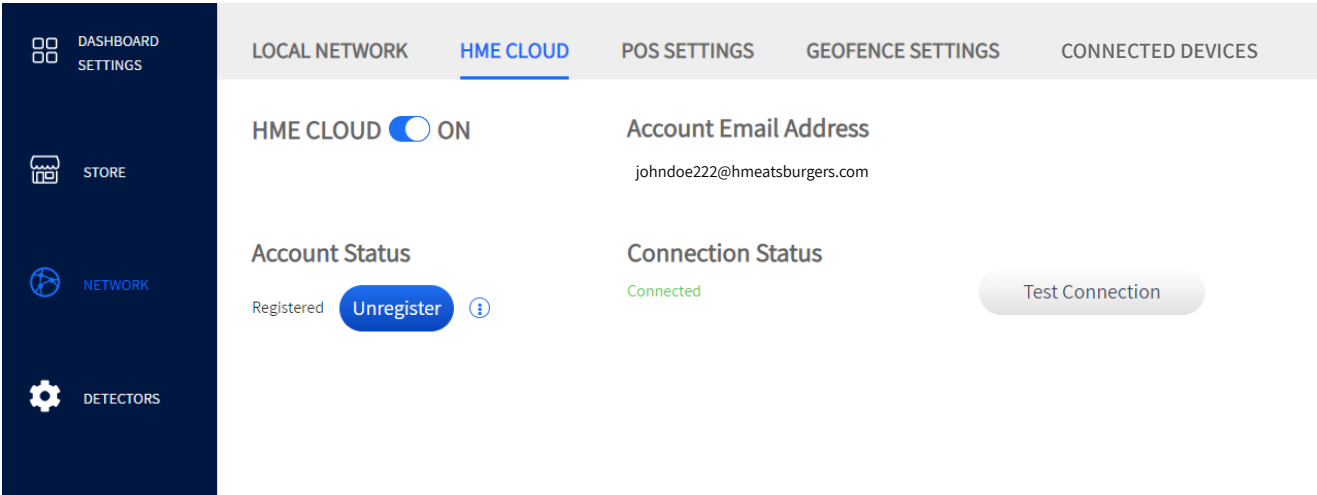

Fig. 5.2
**Example:** Fig 5.2 shows you have turned the HME CLOUD feature “ON”. The CONNECTION STATUS shows that you are connected to the cloud. The ACCOUNT EMAIL ADDRESS is populated when you are registered. To change this email address, you must first unregister using the Unregister button. An email address only needs to be entered if you have an account set up. If not, leave blank, and click “Save” to connect.